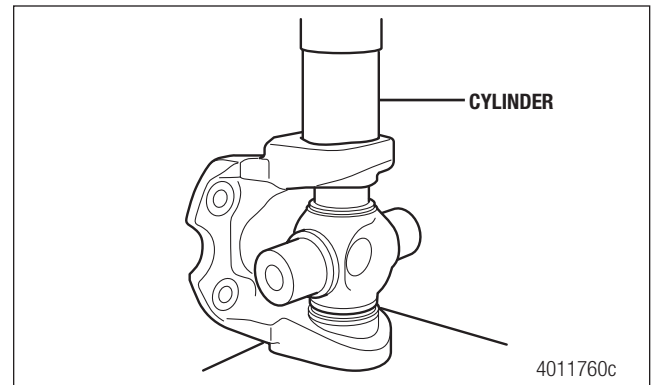

Figure 5.91
9. Install the cylinder on the end and press DOWN until there is snap ring clearance. Apply only the amount of pressure needed to push the bearing down. Excess pressure may cause damage to the snap ring installed on the other end. Figure 5.91.